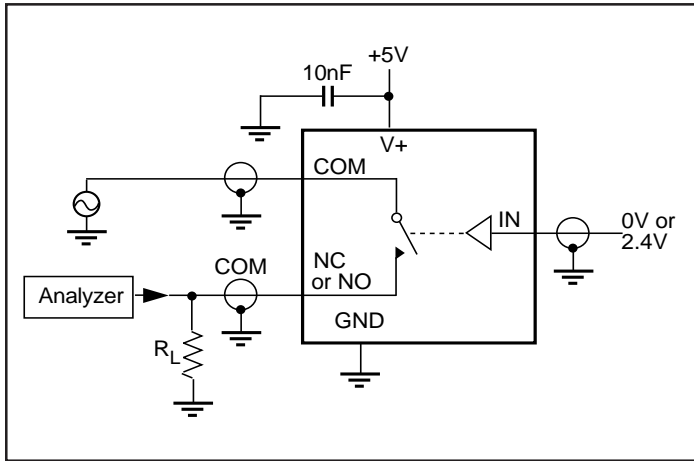

Figure 5. Off Isolation
7. Off Isolation = $20\log_{10} [V_{COM} / (V_{NC\ or\ V_{NO}})]$. See Figure 5.